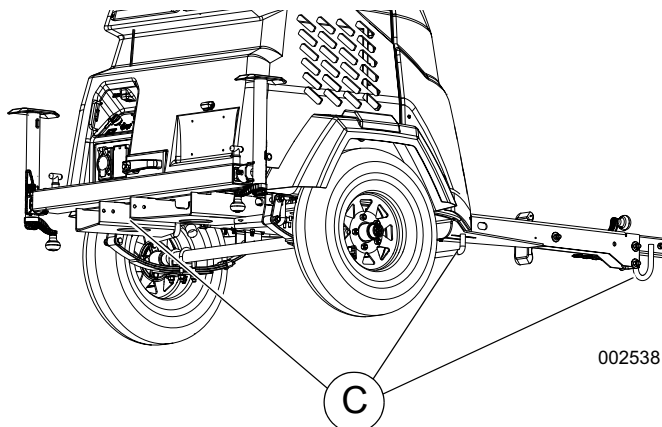

Figure 3-12. Tie-Down Points
See Figure 3-12. Use the tie-down points (C) as shown.